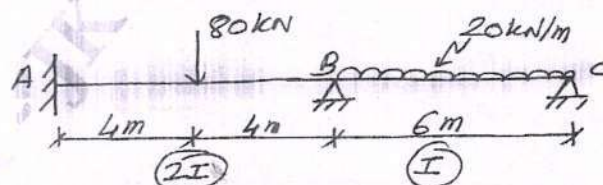

Fig.Q7
- Q.7** Analyze the beam completely by slope deflection method, when support B sinks by 1 mm and support C rises by 0.5 mm. Take  $EI = 30000 \text{ kN.m}^2$ . Refer Fig.Q7. Draw BMD, SFD and Elastic Curve.